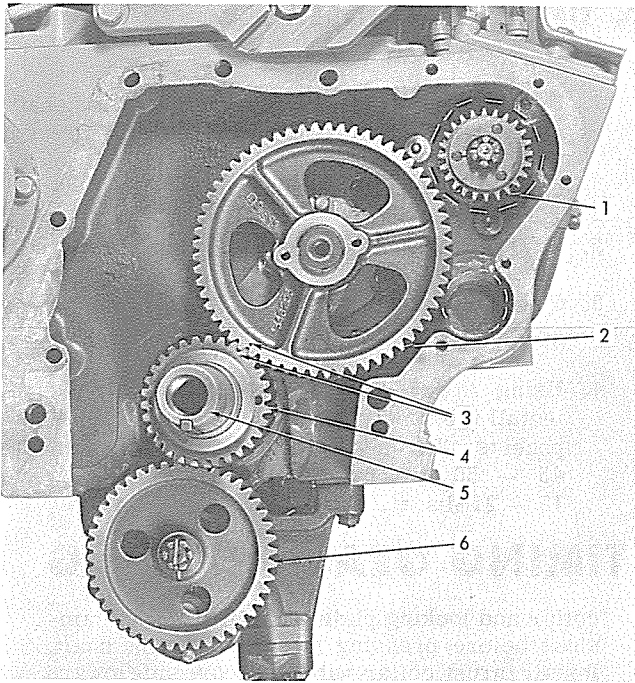
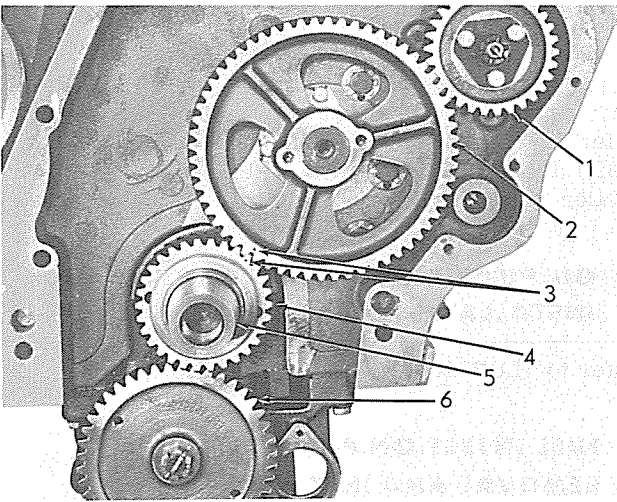
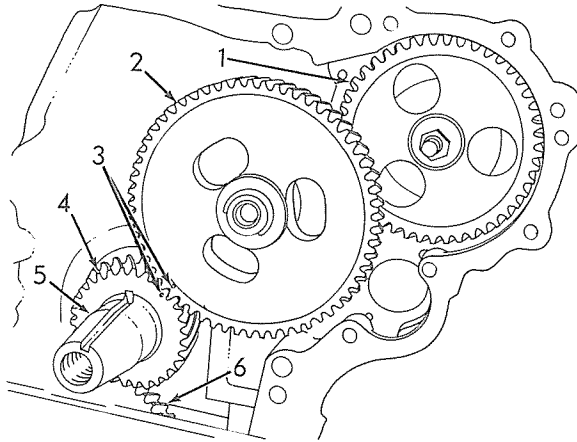
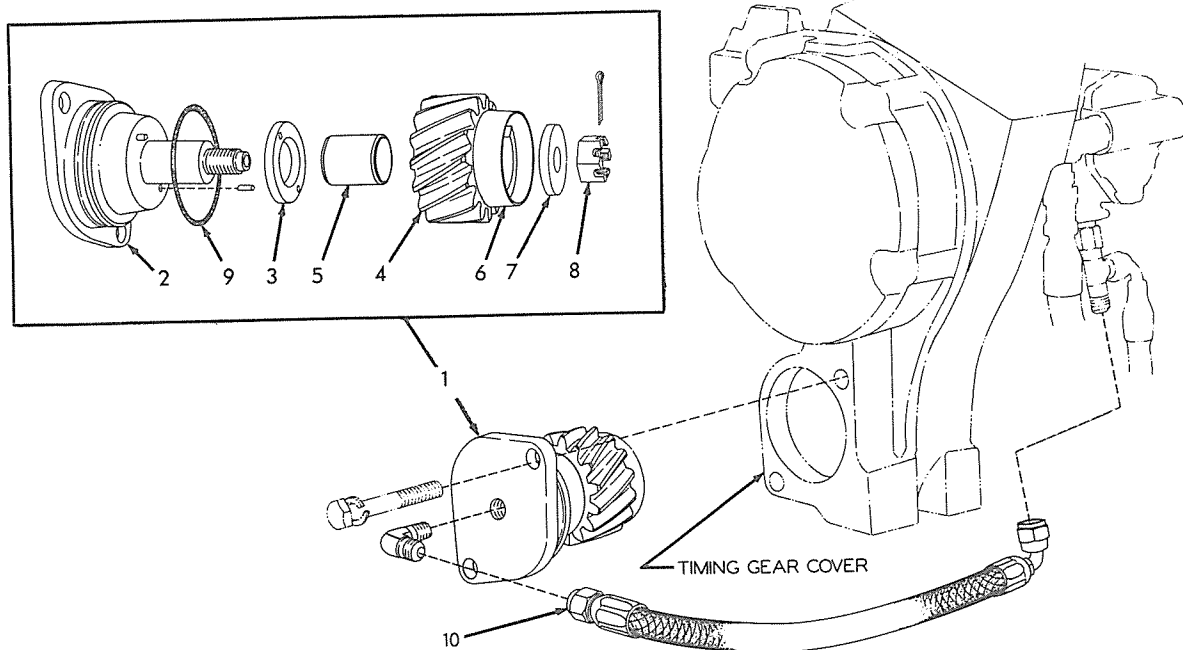

Fig. 9 — Typical Gear Train (Engines with American Bosch Fuel Injection Pump and Fan Drive Pulley) (T-27622)
Fig. 10 — Typical Gear Train (Engines with American Bosch Fuel Injection Pump but without Fan Drive Pulley) (T-19297)
Fig. 11 — Typical Gear Train (All Engines with Roosa Master Fuel Injection Pump) (T-72703)
Fig. 12 — Type I Hydraulic Pump Drive
6. If engine is so equipped, disconnect lubricating oil line from steering pump drive gear and remove drive gear, refer to Fig. 9.
Located in the timing gear housing, at the fan end of the engine, is a completely enclosed train of four helical gears as shown in Figs. 9, 10, and 11. The crankshaft gear (4) which is pressed and keyed to the crankshaft (5) drives the camshaft gear (2) and the engine oil pump drive gear (6). The fuel injection pump drive gear, Fig. 9 (1), is driven by internal teeth in the fan drive gear. The fuel injection pump drive gear, Fig. 9 (1), is driven directly by the camshaft gear. The fuel injection pump drive gear, Fig. 10 (1), is driven directly by the camshaft gear. The fuel injection pump drive gear, Fig. 11 (1) is driven by a gear integral with the camshaft gear. The fan drive, on all engines so equipped, is driven by the camshaft gear. On engines equipped with a hydraulic pump mounted on the rear of the timing gear housing, the camshaft gear also drives the pump drive gear, Figs. 12 or 13.
On engines with fuel injection pump drive gears similar to those illustrated in Figs. 9 or 11, it is not necessary to remove the gear in order to remove the timing gear housing. The gear is removed with the fuel injection pump (refer to "FUEL SYSTEM" Sections).
On engines with a fuel injection pump drive gear similar to the one illustrated in Fig. 10, proceed as follows:
F. TYPE I HYDRAULIC PUMP DRIVE REMOVAL, DISASSEMBLY, AND INSPECTION (Fig. 12)
3. Disconnect lubricating oil hose (10).
- Remove capscrews and lockwashers and pull drive gear assembly (1) from timing gear cover.
- Remove cotter pin and nut (8) from shaft.
- Remove washer (7) gear (4) and washer (3). Remove O-ring (9).
G. TYPE I HYDRAULIC PUMP DRIVE ASSEMBLY AND INSTALLATION (Fig. 12)
- Assemble drive gear by reversing the disassembly procedure. Install thrust washer (3) on dowel pins with oil grooves in washer facing the gear (4). Install retaining washer (7) with chamfered side facing the gear. After nut (8) is tightened, check end play between thrust washer (3) and gear (4). The specified end play is .002" - .007". If end play exceeds .010", replace thrust washer (3). The specified thickness of a new thrust washer is .186" - .188".